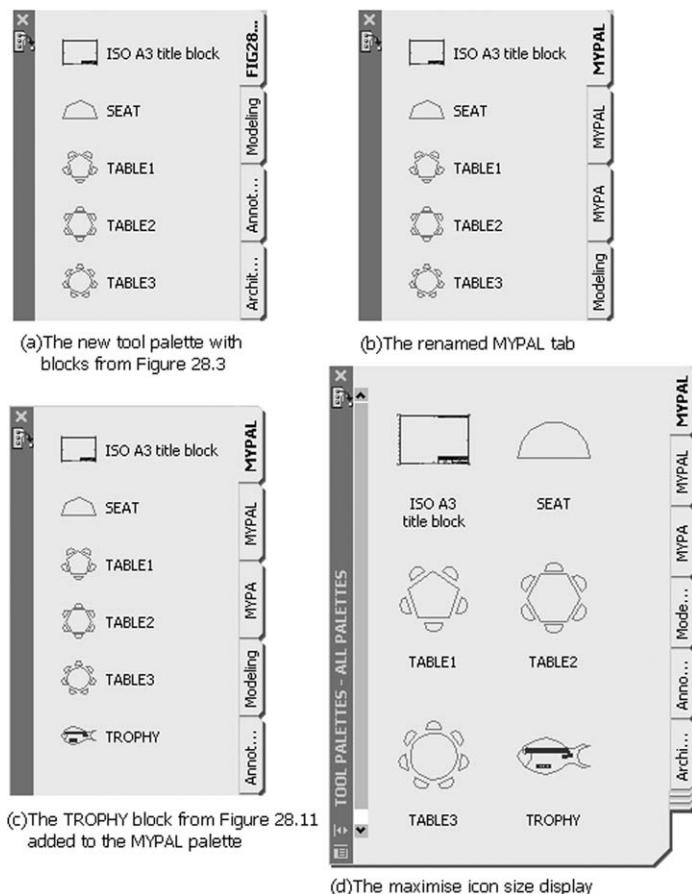

Figure 35.4 Creating a customized tool palette tab.
b) a new tab (Figure 28.3 in my case) – Figure 35.4(a)
and the new tool palette will be renamed as Figure 35.4(b).
- c) left-click on TROPHY and drag into the MYPAL tab – Figure 35.4(c).
- 6 The new tab will display the icons at the increased scale – Figure 35.4(d).